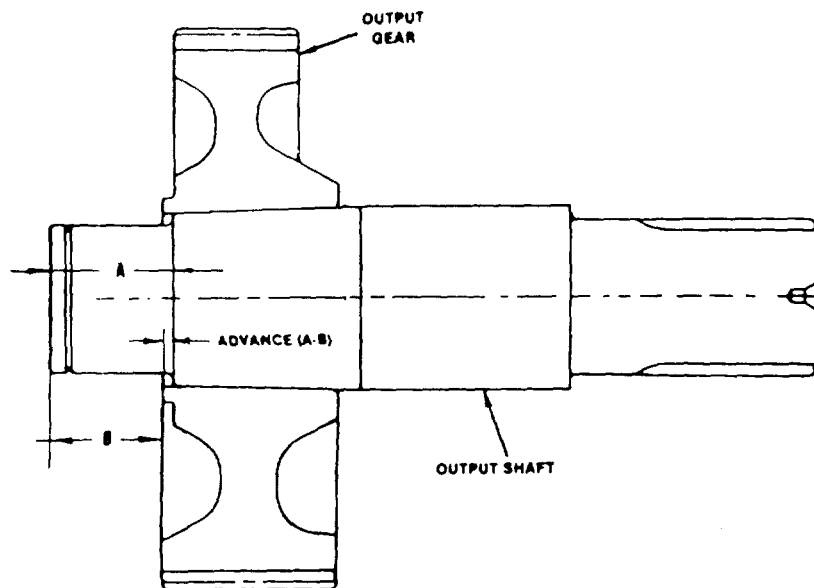

FIGURE K-1: Determining output gear advance.
- i) Measure and record the distance from the rear of the shaft (Figure O-3 Item 12) to the shoulder on the shaft at the small end of the taper (Distance A in Figure K-1).
- iii) Measure and record the distance from the rear of the shaft (Figure O-5 Item 12) to the rear face of the gear (Figure O-5 Item 13) (Distance B in Figure K-1).